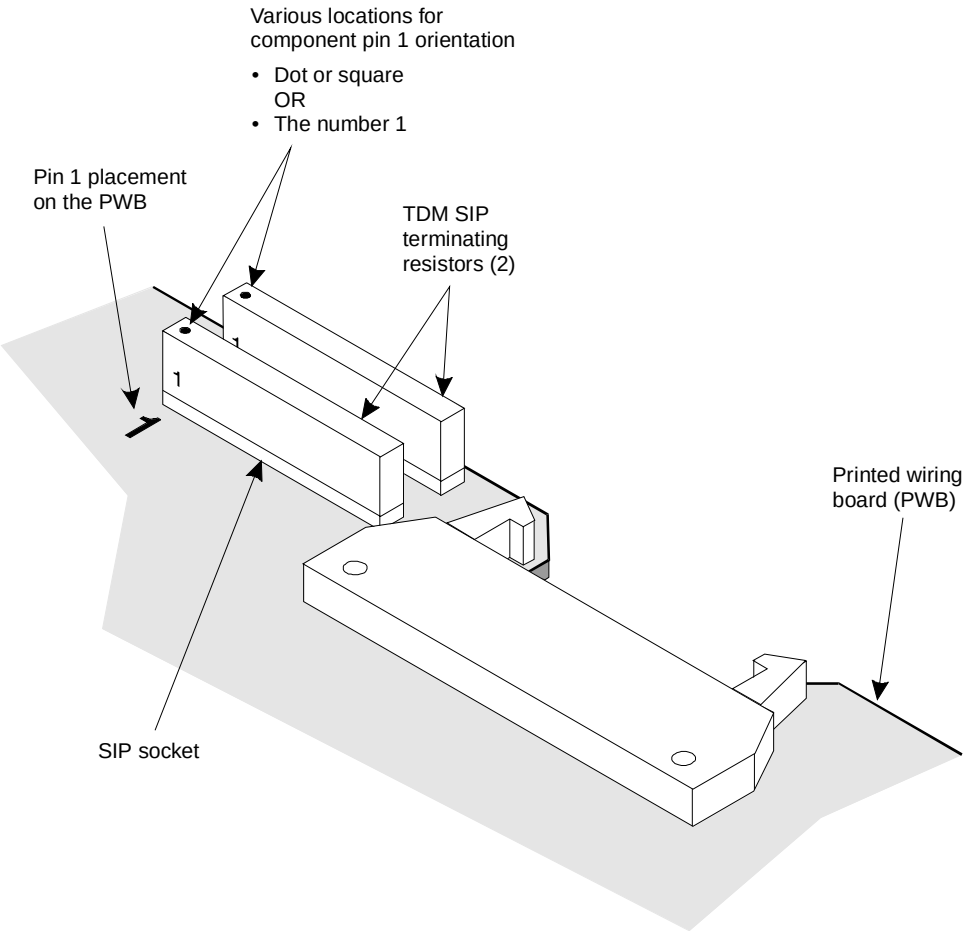

Figure 7-5. Replacing Terminator SIPs on the TDM Bus
1. Align the terminator SIP with the SIP socket on the circuit card (Figure 7-5).